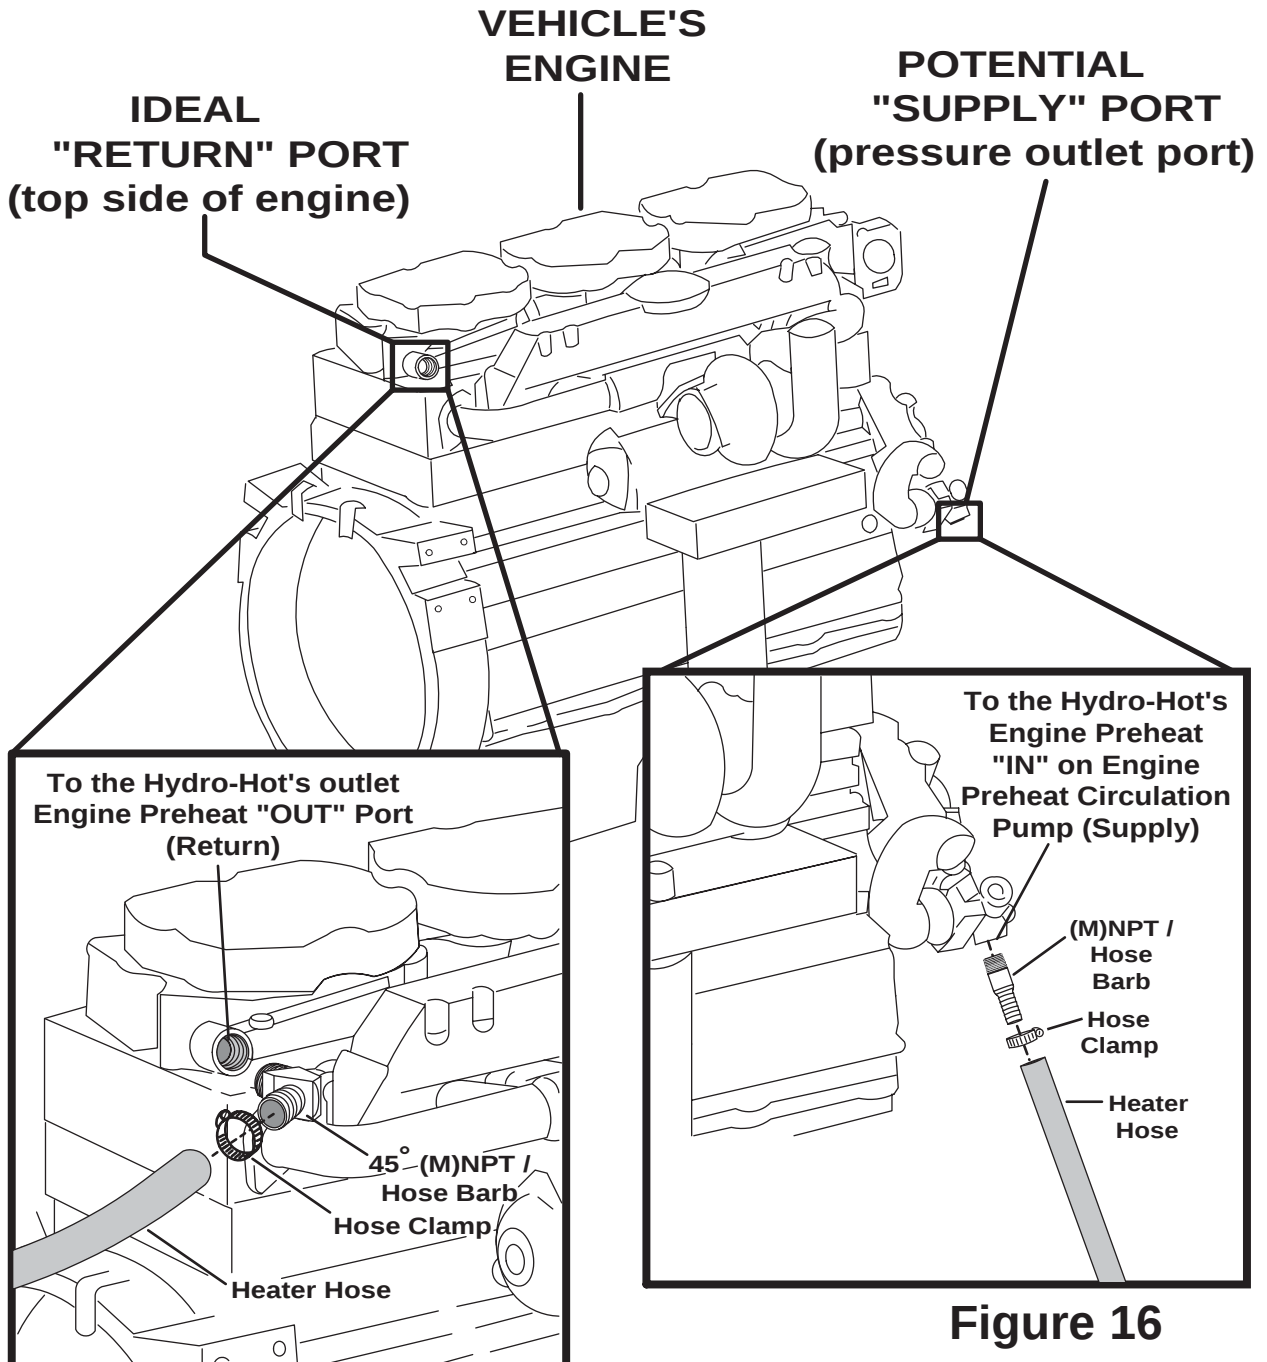

Figure 16
- A. The **Supply** and **Return** ports on the vehicle's engine should be kept as far apart as possible. This will ensure that the entire engine is thoroughly preheated, see Figure 16. If you need assistance in determining the best **Supply** and **Return** ports for a specific engine, please contact us directly.
2. The engine's **Return** port receives the heated coolant back to the Engine Block from the Hydro-Hot. This port should be a **high** connection point on the Engine Block or a **suction port** on the engine's Water Pump, see Figure 16.
3. The engine's **Supply** port supplies the engine's coolant to the Hydro-Hot's Engine Preheat Circulation Pump (HHE-200 Models) or to the Hydro-Hot's Motoraide "IN" connection (HHE-500 Models). This port should be a **low** connection point on the Engine Block or a **pressure outlet port** on the Engine's Water Pump, see Figure 16.
- 5. Install and clamp both the **Supply** and **Return** engine Plumbing Lines / Heater Hose to the Engine's Plumbing Fittings, see Figure 16.